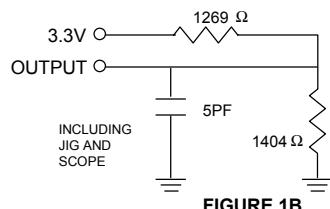

FIGURE 1B
5. Transition is measured $\pm 500\text{mV}$ from steady state with $C_L = 5\text{pF}$ as shown in Figure 1B.
10. Transition is measured $\pm 500mV$ from steady state with $Q_L = 5pF$ as shown in Figure 1B. The parameter is guaranteed but not 100% tested.